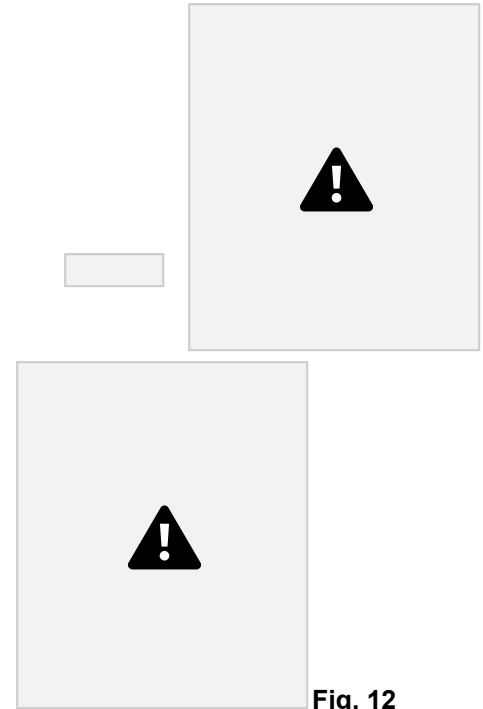

Fig. 12
6. Remove wing nuts holding bracket to the top of the pump as seen in Figure 12. Note its position so it can be returned to this location.
7. Lift the discharge pump through the hole in the top of the waste (Figure 12).